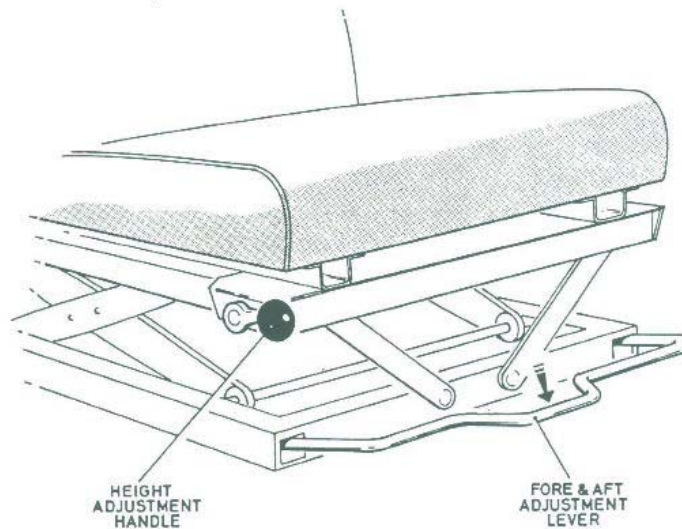

Fig.1-2 Front seat adjustment
2. Front seat adjustment (Fig. 1-2)